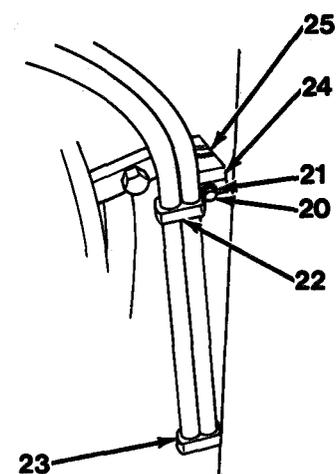

Figure 17-4
17. From under right frame, remove two bolts (20), washers (21), clamps (22) and (23), bars (24) and four clamps (25, Figure 17-4).